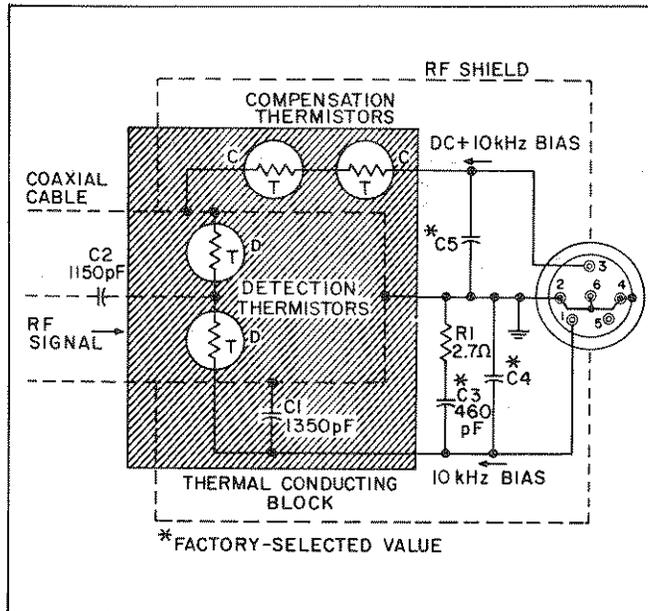

Figure 5. Schematic Diagram of a Model 478A Thermistor Mount when Connected to a 431 Power Meter
28. Note that some 10-kHz bias signal is coupled into the RF transmission system by C_2 (Figure 5). If the RF source output impedance at 10 kHz is 15K ohms or greater, 10-kHz bias voltage is typically 1.3 V RMS and could equal 1.5 V RMS. For an RF source output impedance of 50 ohms at 10 kHz, bias signal voltage is typically 5 mV RMS.
48. Two matched series thermistors are mounted on a common thermal conducting block, represented by the shaded rectangle in Figure 5. One pair, marked "D" for detection, is mounted between the end of a coaxial cable and cylindrical cavity. These thermistors are exposed to incoming RF power which heats them, lowering their resistance. The other pair, marked "C" for compensation and situated immediately outside the cavity, is completely shielded from RF. With the 478A attached to the 431 Power Meter, the detection thermistors are part of the metering circuit.
53. Under normal operation, the total power supplied to heat thermistor pair "D" (see Figure 5) consists of 1) RF signal, 2) 10 kHz bias, 3) heat from the environment. The total power supplied to heat thermistor pair "C" consists of: 1) dc bias, 2) an equal amount of 10 kHz bias, and 3) heat from the same environment. As "D" and "C" are matched thermally, the total amounts of heat applied to reduce their series resistance equally must be equal.